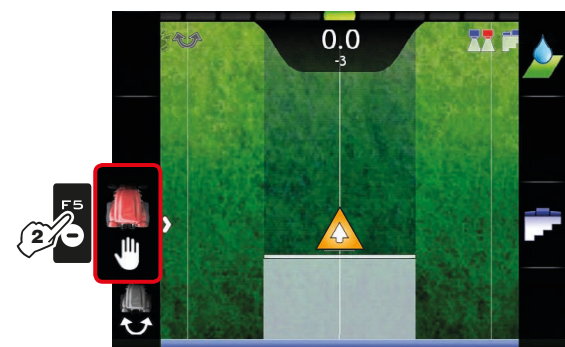

Fig. 52
- 2 Press **F5**. A list of options concerning available manual controls will appear (Fig. 52). Pressing each key will enable the corresponding function: